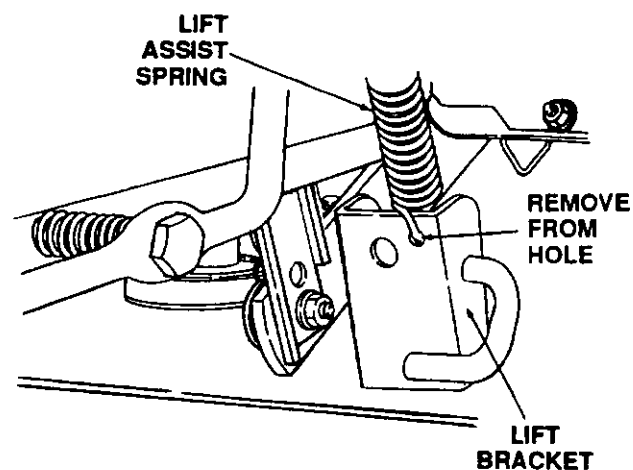

Figure 30
6. Remove lower end of each spring from the hole in mower deck rear lift bracket. (Refer to Figure 30.)